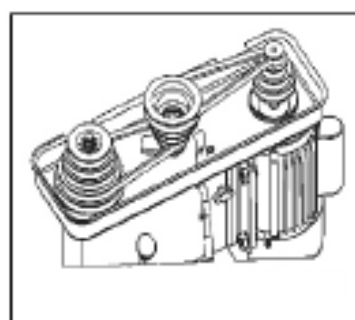

Fig 16
WARNING: Always ensure that the tool is switched off and unplugged from the power supply before making any adjustments or changing a drill bit. Unscrew the cross head screw securing the pulley guard (1) and lift open the pulley guard (1) to expose the pulley system. Determine the spindle speed required. Identify the pulley arrangement that gives the nearest spindle speed to that required by referring to the drill speed chart (Fig 16).